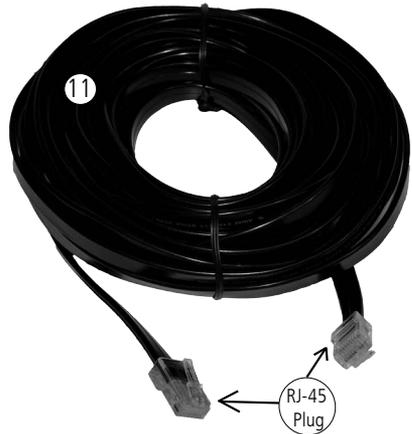

Fig 2.4(b) Cable for Remote Control
11. RJ-45 Data Cable (Straight Wired), 10 meter/33 feet length {Fig 2.4(b)}